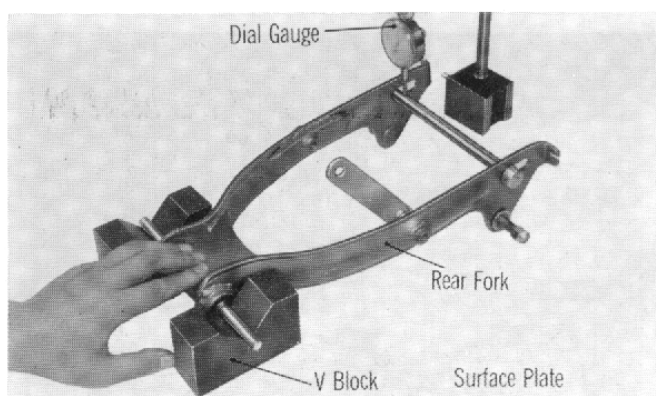

Fig. 97
- (2) Check the rear fork for twist and deformation. If twist is over 0.040 in. (1 mm) or the part is defective, replace with a new part. (Fig. 97)